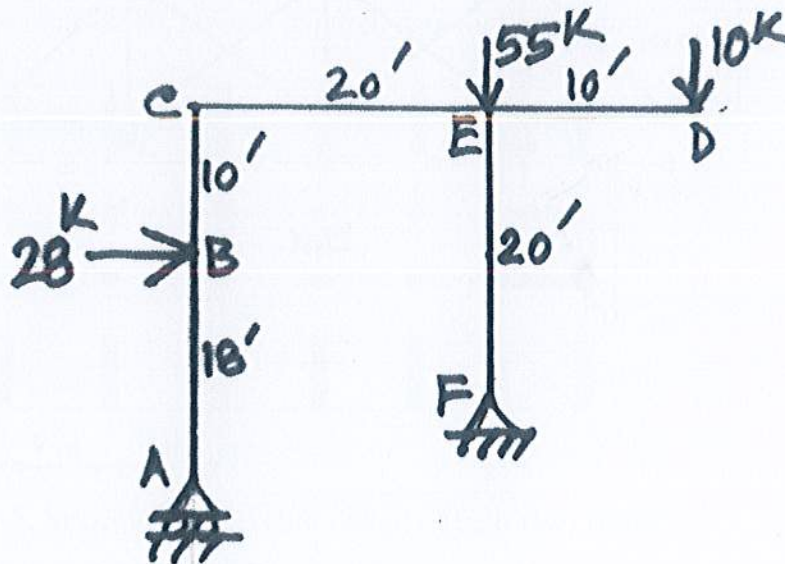

Fig.2
2. Using Virtual Work (Unit Load) method, calculate (i) the horizontal deflection at joint C and (ii) rotation of the free end D of the Frame in Fig.2